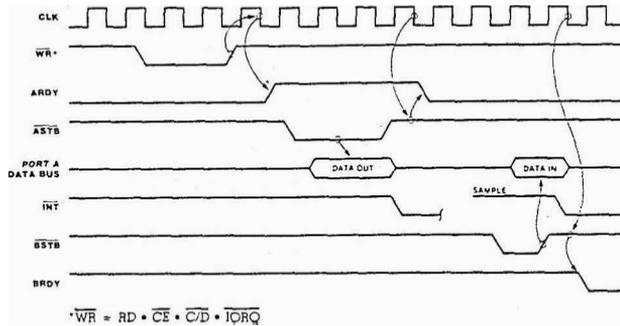

Figure 16. Mode 2 Bidirectional Timing
**Bidirectional Mode (Mode 2).** This is a combination of Modes 0 and 1 using all four handshake lines and the eight Port A I/O lines (Figure 16). Port B must be set to the bit mode and its inputs must be masked. The Port A handshake lines are used for output control and the Port B lines are used for input control.